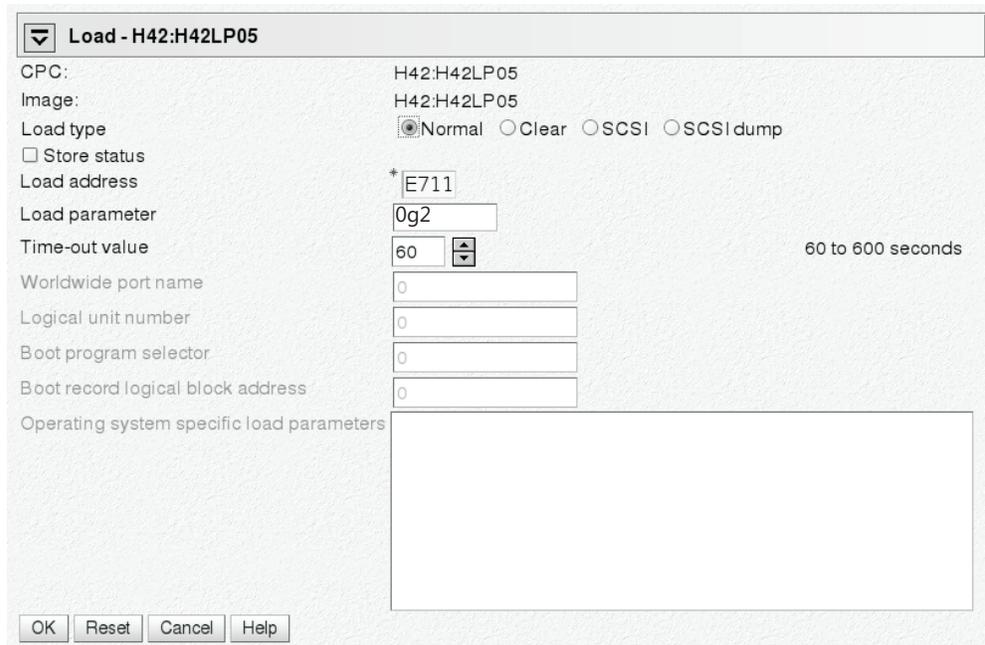

Figure 15. Load panel for booting from DASD
4. Select load type **Normal** (see Figure 15 on page 62).